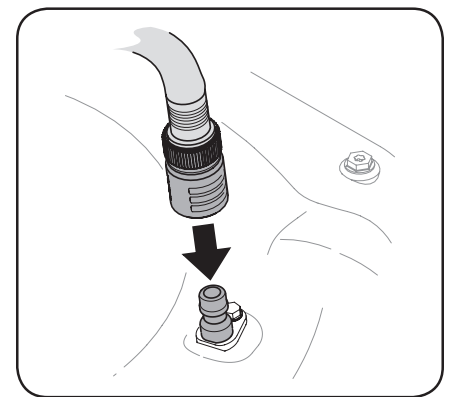

Figure 4-2
3. Attach garden hose with the deck wash nozzle to the water port on your deck's surface. See Figure 4-2.